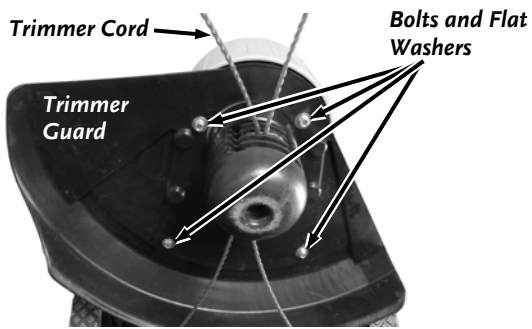

Figure 28
3. Remove the four Trimmer Guard Bolts and Flat Washers with a 3/8" Wrench. Remove the Trimmer Guard (Figure 28).
17. Position the Trimmer Guard and secure with the four Bolts and Flat Washers using the 3/8" Wrench (**Figure 28**).